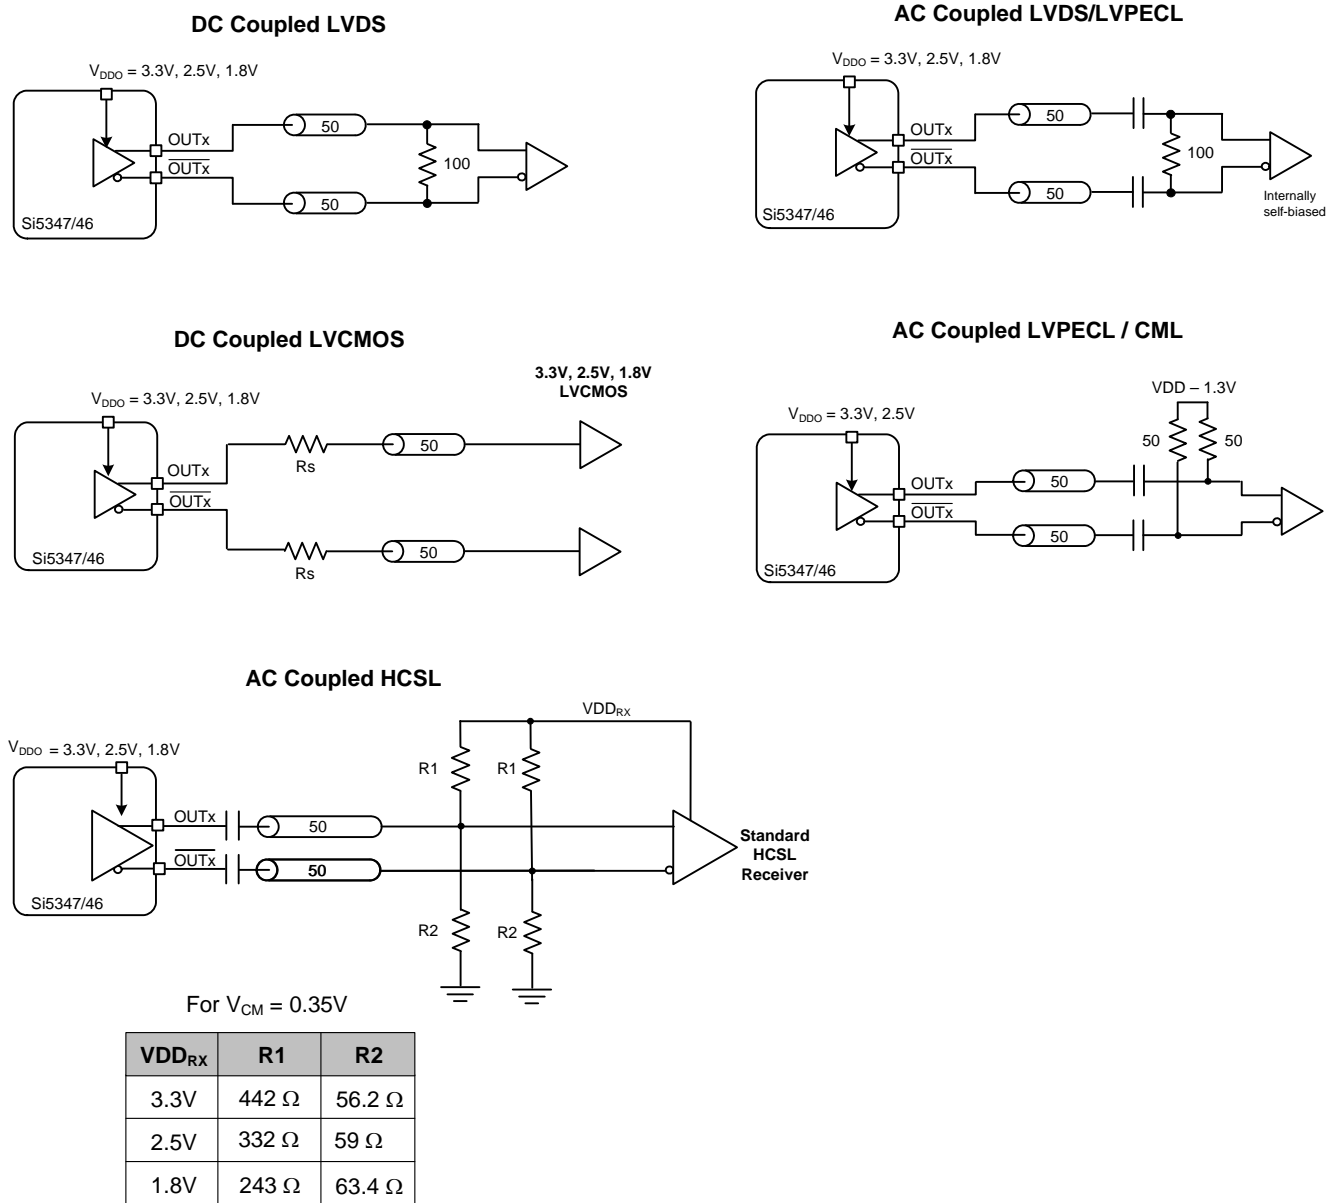
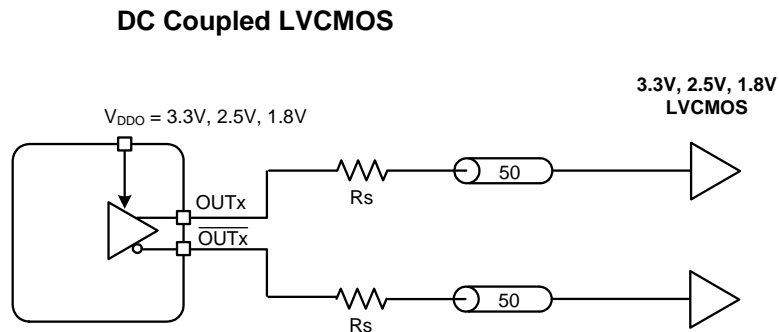

Figure 16. Output Terminations for Differential and LVC MOS Outputs
Figure 17. LVCMOS Output Terminations
The differential output drivers support both ac coupled and dc coupled terminations as shown in Figure 16.
2. Creates HCSL compatible signals, see HCSL receiver biasing network in Figure 16.
LVCMOS outputs may be ac- or dc-coupled, as shown in Figure 16. AC coupling is recommended for best jitter and phase noise performance. For dc-coupled LVCMOS, as shown again in Figure 17 below, series termination resistors are required in order to increase the total source resistance to match the trace impedance of the circuit board.